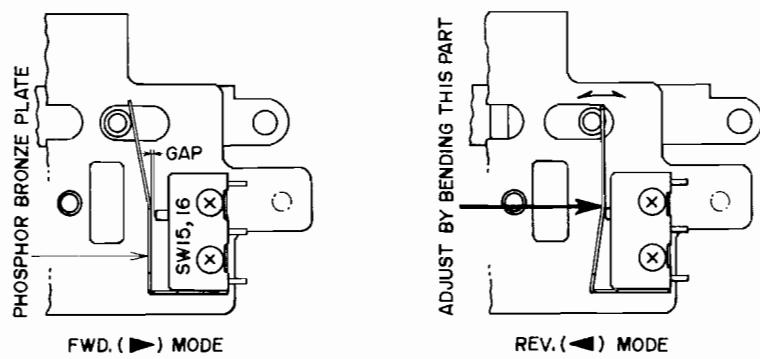

Fig. 11
- 1) At FWD mode, (\blacktriangleright) there should be a gap between the phosphor bronze plate, and the micro switch should be completely inactivated. (Fig. 11, left)
- 2) At REV mode, (\blacktriangleleft) the phosphor bronze plate should depress the micro switch so that it operates perfectly. (Fig. 11, right)
- 3) In case the micro switch does not operate perfectly, adjust by bending the phosphor bronze plate as shown in Fig. 11 (right).